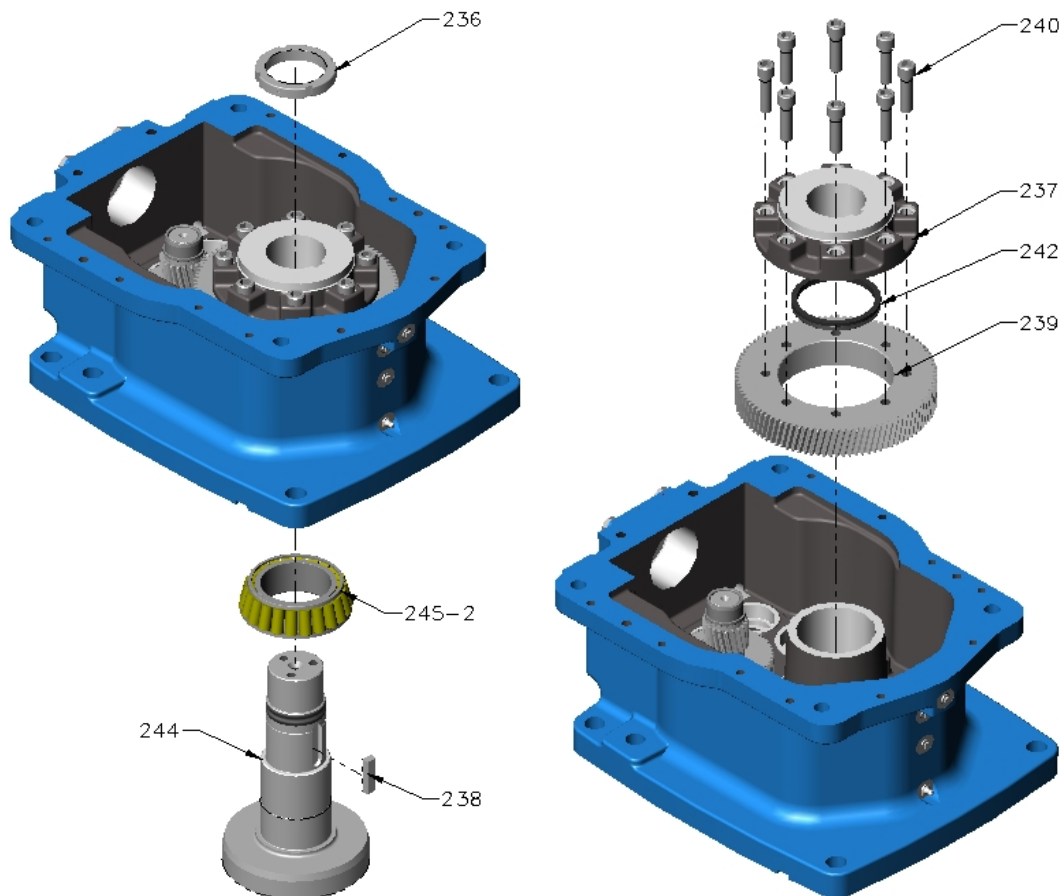

Figure 7 – Output Shaft
- I. At output shaft [244], remove the following items (refer Figure 7):
- J. Output shaft [244] disassembly (refer Figure 7).